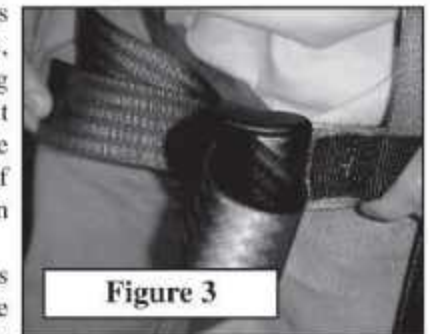

Figure 3
**Step 1.** Buckle the main belt around your waist. Thread the buckle as show in **Figure 3**. Pull tag end to a snug fit.